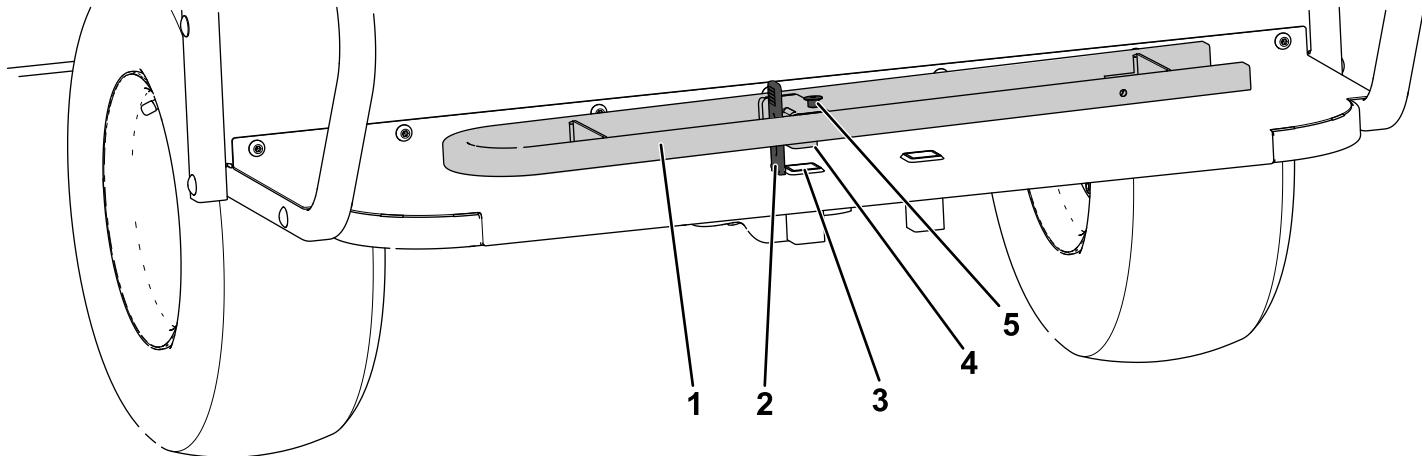

Figure 12
1. Remove the rear-seat handle and lay it flat on the footrest lining up the tab on the handle with the handle hole on the footrest (Figure 12).
2. Secure the handle to the footrest using the hold-down strap and countersunk screw on the rear-seat handle (Figure 12).